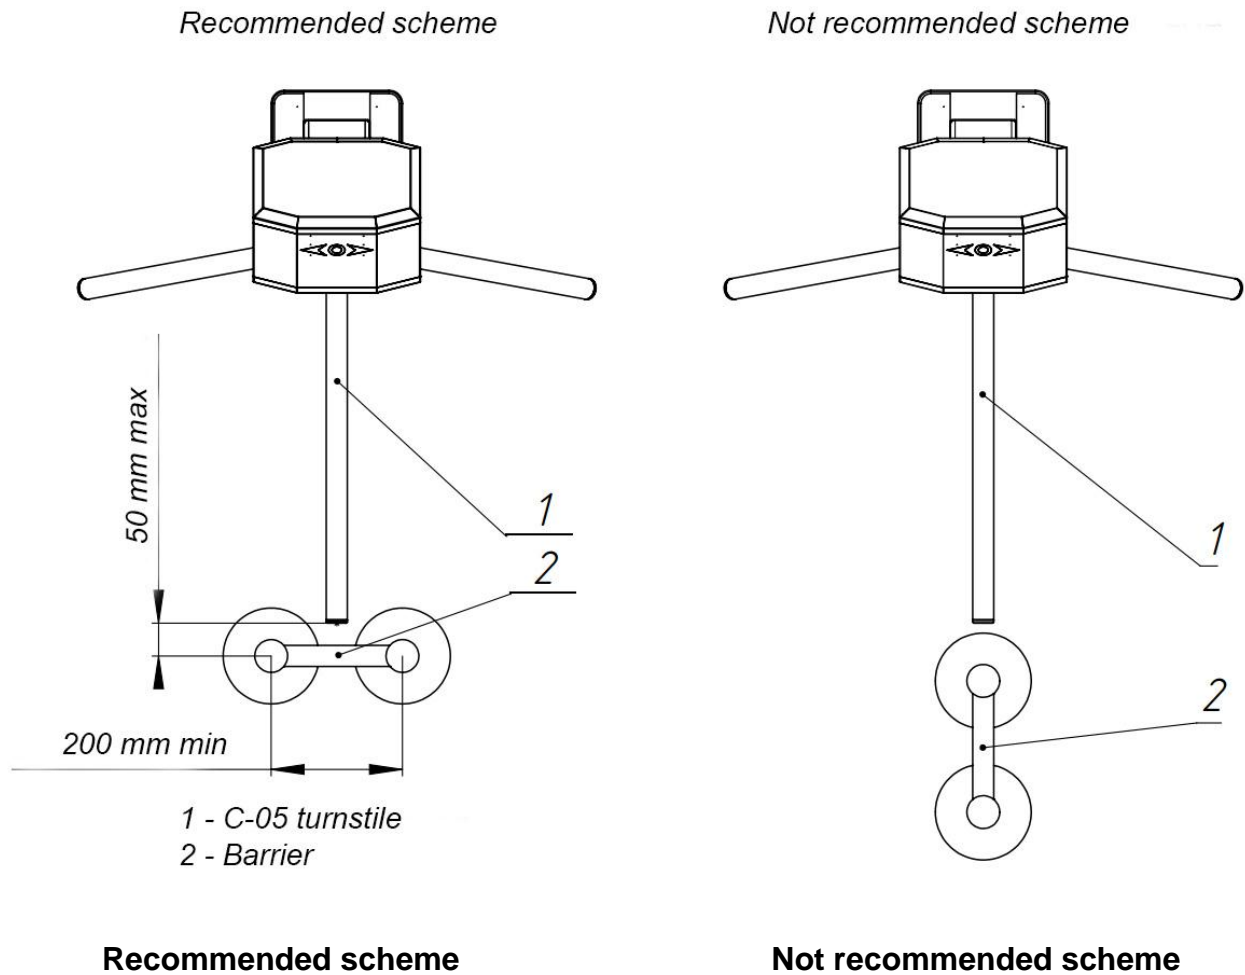

Figure 3 – Turnstile passage zone arrangement.
3.5.1 Figure 3 – turnstile passage zone arrangement and guidelines on product orientation.